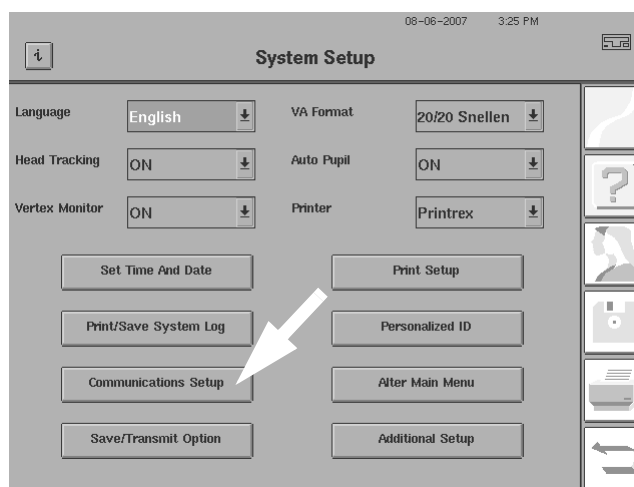

Figure I.3 System Setup Screen
- 2 On the System Setup screen, select *COMMUNICATIONS SETUP* (Figure I.3) to open the Communications Setup menu.